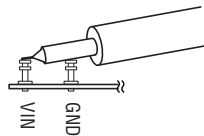

Figure 4. Scope Probe Placement for Measuring Output Ripple
**NOTE:** When measuring the output ripple, see Figure 4 for proper scope probe technique.
3. With the 250mA load at the output observe the switching frequency ripple at the output using the oscilloscope. The typical switching frequency is around 2.2MHz. See Figure 4 for proper measurement technique.
3. With the 250mA load at the output, observe the switching frequency ripple at the output using the oscilloscope. The typical switching frequency is around 2.2Mhz. See Figure 4 for proper measurement technique.
3. With the 250mA load at the output, observe the switching frequency ripple at the output using the oscilloscope. The typical switching frequency is around 1.2MHz. See Figure 4 for proper measurement technique.